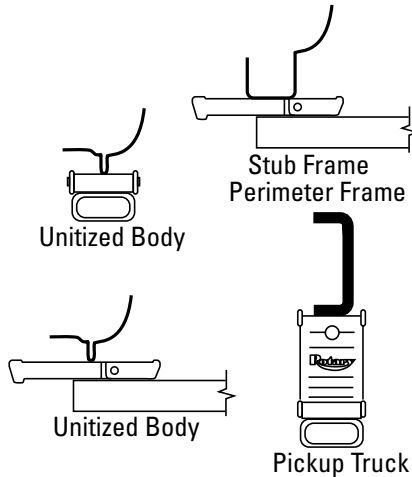

Fig. 4
5. **Loading:** Position arms and adapters at the vehicle manufacturer's recommended lift points. Use intermediate, high step or optional adapters/extensions for under-body clearance when required, Fig. 3 and Fig. 4.
- B. Adapters are in secure contact with frame at vehicle manufacturer's recommended lift points, Fig. 3 and Fig. 4.
**Check Adapter Contact:** Stop and check adapters/pads for secure contact at vehicle manufacturer's recommended lift points, Fig. 3 and Fig. 4. Shake car moderately at front or rear bumper.